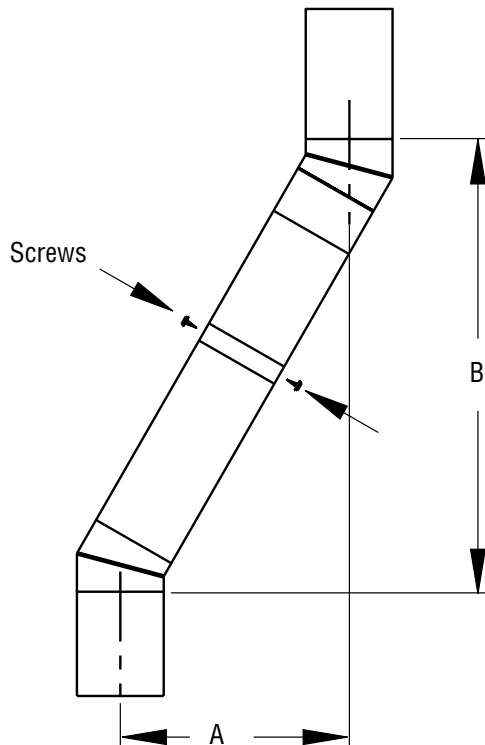

Figure 10 - Elbow Offset
Continue to assemble chimney sections as outlined above, making sure that both the inner and outer pipe sections are locked together. When installing double wall snap-lock chimney together, it is important to assure the joint between the chimney sections is locked. Check by pulling chimney upward after locking. The chimney will not come apart if properly locked. It is not necessary to add screws to keep the chimney together (exception, see Figure 10, page 10).
1. To achieve desired offset, you may install combinations of 12", 18", 24", 36" and 48" length of double wall pipe (see offset chart and Figure 10).
4. All pipe connections between the offset and return must be secured with two screws on the outer pipe only (see Figure 10). Do not penetrate the inner stainless.
5. One (1) 6" pipe section adapter (included with offset elbow F5169 and F5170) must be installed prior to return elbow any time a pipe section is installed between offset and return elbows.